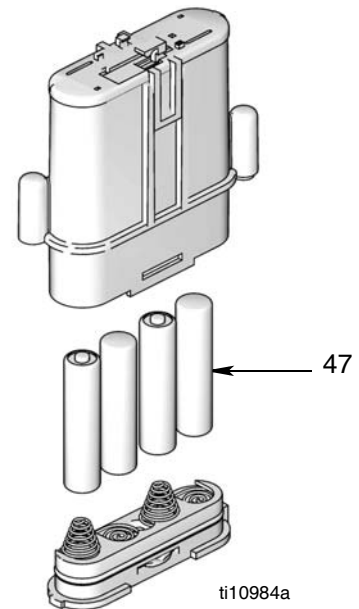

FIG. 28
<ul style="list-style-type: none"> Only use the size and type of batteries specified in this manual. <p>Batteries required to meet life expectancy:</p> <ul style="list-style-type: none"> Energizer E91 <ul style="list-style-type: none"> Be sure to follow the correct polarity when installing batteries in the battery compartment (FIG. 28). Reversed batteries may damage this meter. Do not mix different types of batteries together or old batteries with fresh ones. Always replace all 4 batteries with 4, fresh, new batteries.
- Install new batteries. See FIG. 28 for battery orientation.